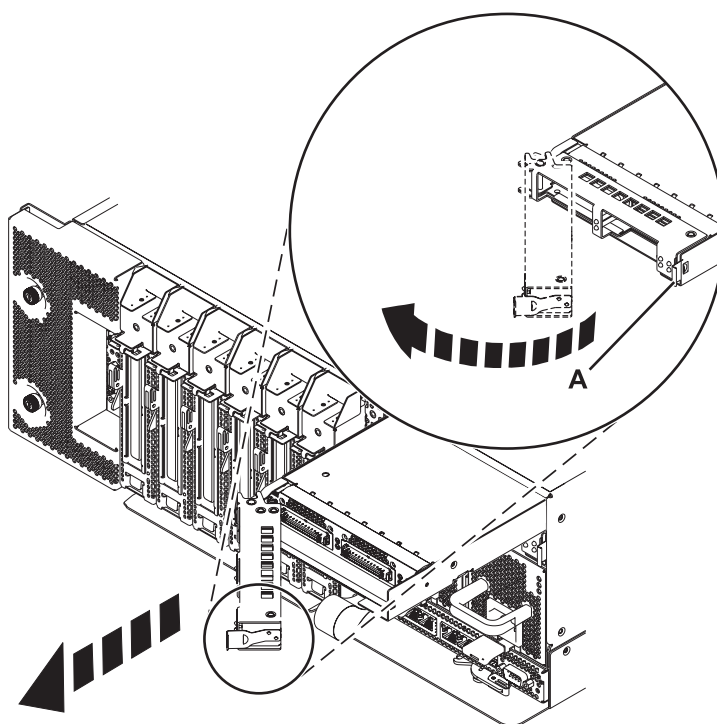

Figure 3. Removing the GX adapter from the system
7. Push the locking tab (A) to the left and rotate the GX card cover in the direction shown in Figure 3.